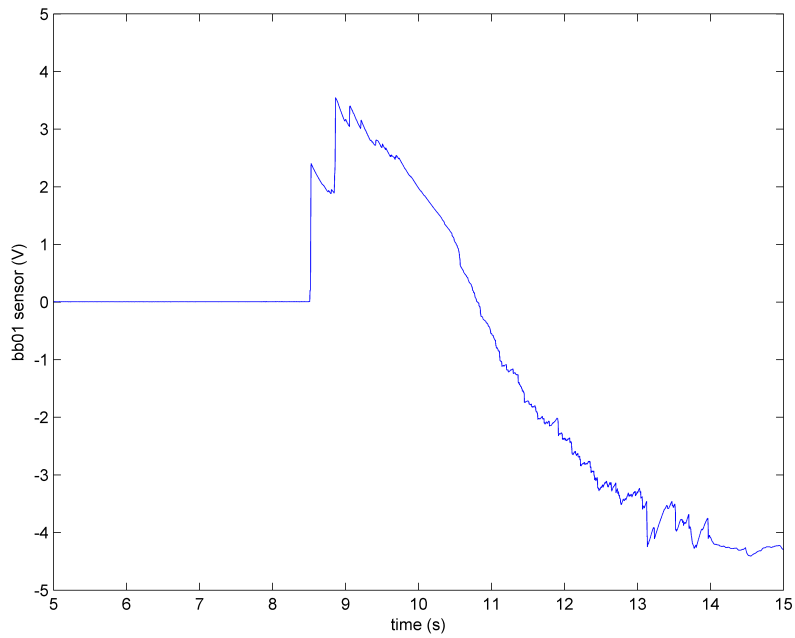

Figure 6.1: Typical voltage signal measured by the BB01 ball position sensor
2. A typical signal response of the ball position sensor is illustrated in Figure 6.1. For the BB01, the ball position sensor should output a voltage of about 4.5 V when it is closest to the SRV02. As the ball is rolled away from the SRV02 the measured voltage signal should be decreasing down to approximately -4.5 V when the ball reaches the other end of the beam.